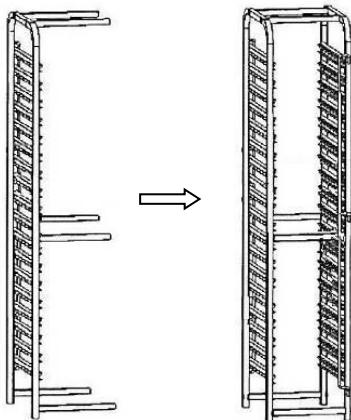

Fig. 1
1. First, install 6 cross members (upper, lower and middle) to one side part of the clearing trolley (**fig. 1**). Place a square washer between the upper cross member and side part, lower cross member and side part, and between the side part and each bolt, and tighten those elements with use of an Allen wrench.